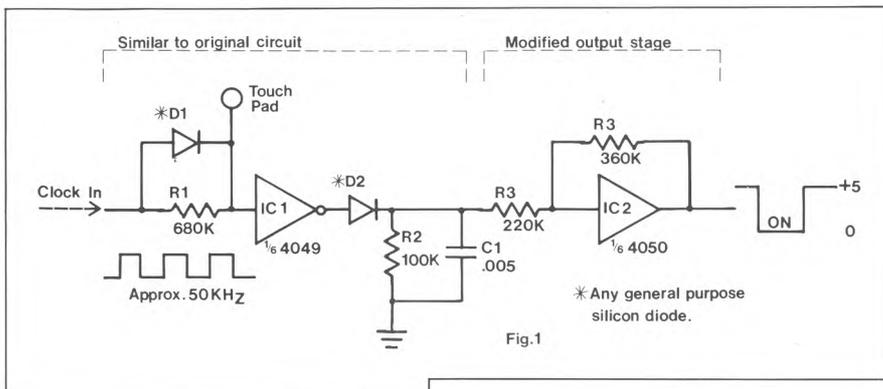

Fig.1
**How it works.** Figure 1 shows how I solved the problem, which is based on a design by Steve Wood. For a rigorous explanation of how touch switches work electrical-
tivity capability. The simplest way to adjust sensitivity is to replace R1 in figure 1 with a 1 Meg trimpot; now you can tweak each key to match its neighbors, and still use the clock to vary the overall sensitivity.